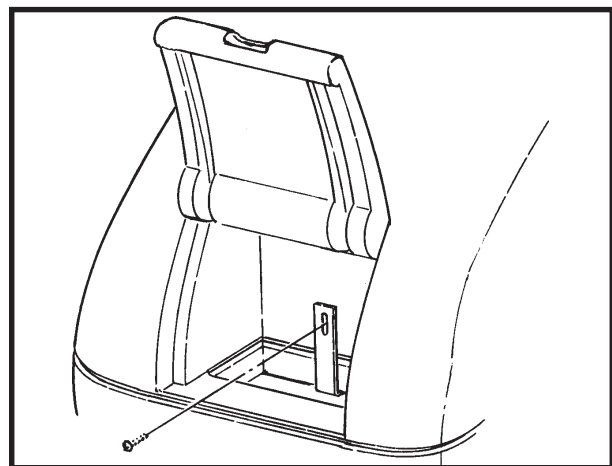

Figure 11
2. Check and clean the filter screen in the solution hose. To clean the screen, follow this procedure: (See figures 11 and 12 page 18)
### How to replace float switch, check ballast tanks, and vacuum motor. (See Figure 11)